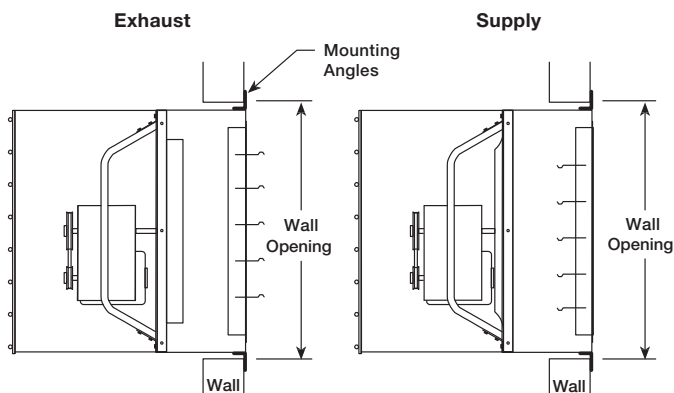

Figure 2
- Attach (4) mounting angles to the fan housing and wall framing. Refer back to Figure 2.